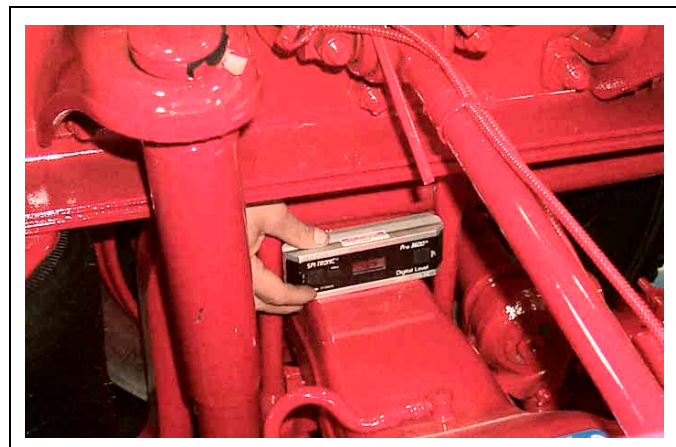

Figure 1-12 Illustration of Using an Inclinometer to Determine Forward-rear Frame Pinion Angle
18. Measure and record the forward-rear frame pinion angle at either the top or bottom of the housing, near the axle seat, on the long arm of the axle, with the inclinometer oriented inboard as shown in Figure 1-12.
21. Remeasure and record the forward-rear axle angle (now with respect to the true horizontal) at either the top or bottom of the housing, near the axle seat, on the long arm of the axle, with the inclinometer oriented inboard as shown in Figure 1-12. This will be the forward-rear ground pinion angle.